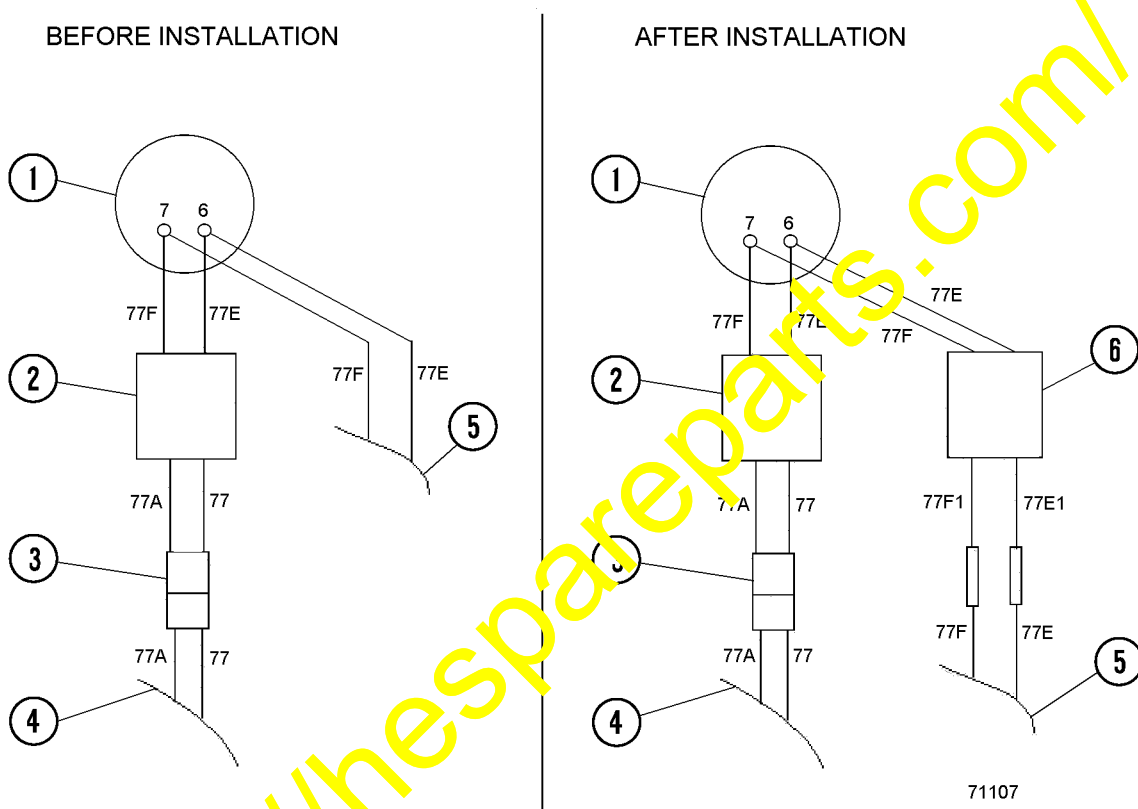

FIGURE 1. INSTALLATION OF ATTENUATOR
Some PLM III systems in the field may record incorrect speed data. The incorrect speeds are generated when the truck is stopped. To eliminate this problem, an attenuator (EK3046) can be added to the input circuit on the Payload Meter III system. Follow the instructions below for installing the attenuator (6, Figure 1) on the truck.
1. Access the terminals located on the back of the speedometer (1, Figure 1).
2. Remove ring terminal 77F on harness (5) attached to terminal 7 on speedometer (1). Notice that there are two ring terminals 77F on terminal 7 of the speedometer. The one that must be removed is on harness (5), and not the ring terminal connected to the two wire adapter harness (2).
*NOTE: The adapter harness (2) and connector (3) will not be present on some installations. In this case the wire (to leave alone) on terminal 7 of the speedometer will be labeled 77A, not 77F.*
3. Remove ring terminal 77E on harness (5) attached to terminal 6 on the speedometer. Notice that there are two ring terminals 77E on terminal 6 of the speedometer. The one that must be removed is on harness (5) and not the ring terminal connected to the two wire adapter harness (2).
*NOTE: Adapter harness (2) and connector (3) will not be present on some installations. In this case the wire (to leave alone) on terminal 6 of the speedometer will be labeled 77, not 77E.*
4. After ring terminals 77E and 77F from harness (5) have been removed from the speedometer, the ring terminals must be cut off these two wires (leaving the two remaining wires as long as possible) and the wires should be stripped back to prepare it to be spliced to the attenuator (6) wire leads.
*NOTE: If the PLM III system was installed on a truck using Kit AK4754, then harness (5, Figure 1) will be part number EJ1553.*